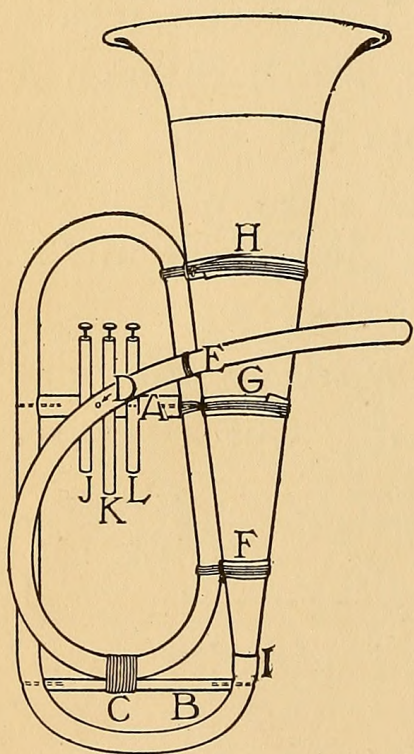

FIG. 540. — Detail of Bass Horn.
**The Bass Horn** (Fig. 532) is made out of a brass phonograph horn and a piece of an old garden-hose. If you haven't an old phonograph from which you can take the horn, you can probably pick up a horn at a second-hand store for half a dollar. The length of this horn will determine the length of the hose tubing, also that of *A* and *B*, but you can follow Fig. 540 in working out the proportions of the instrument. The horn shown in the illustration is